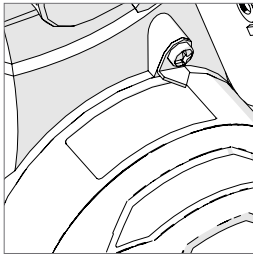

Fig. 34
- Tilt the Cutting Head to the required angle. A protractor scale is provided as an aid to setting. **(Fig 34)**